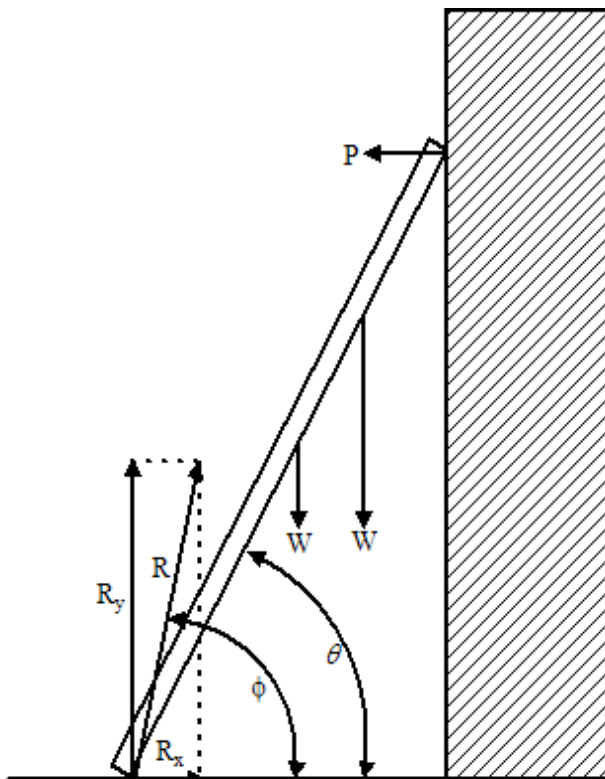

Fig. 1. Ladder resting on "rough" ground and leaning against a "smooth" wall.
In the case of a ladder resting on rough ground and leaning against a smooth vertical wall (Fig. 1), four forces act upon it, namely: the weight of the ladder w , the load W , the force at the wall P , and the reaction at the ground R . Since there is no friction between the ladder and the wall- that is, the wall is *smooth*- the force at the wall is normal to its surface- in this case horizontal. On the other hand, there is friction between the ladder and the ground- that is, the ground is *rough*- and the reaction R has both vertical and horizontal components, R_y and R_x .
5. For $\phi = \theta$ the ladder shown in Fig. 1, under what conditions will? In a practical situation, will the angle ϕ be equal to, less than or greater than θ ?